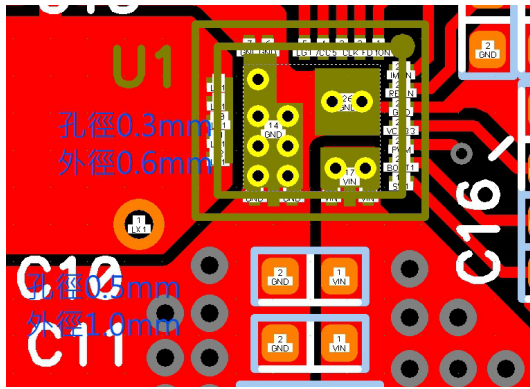

Figure 15. VIAs for Exposed Pads
- 0.3mm VIAs for exposed pads are the recommended via sizes. As shown in Figure 15, 7 VIAs and 2 VIAs are recommended for PGND and VIN exposed pads, respectively.